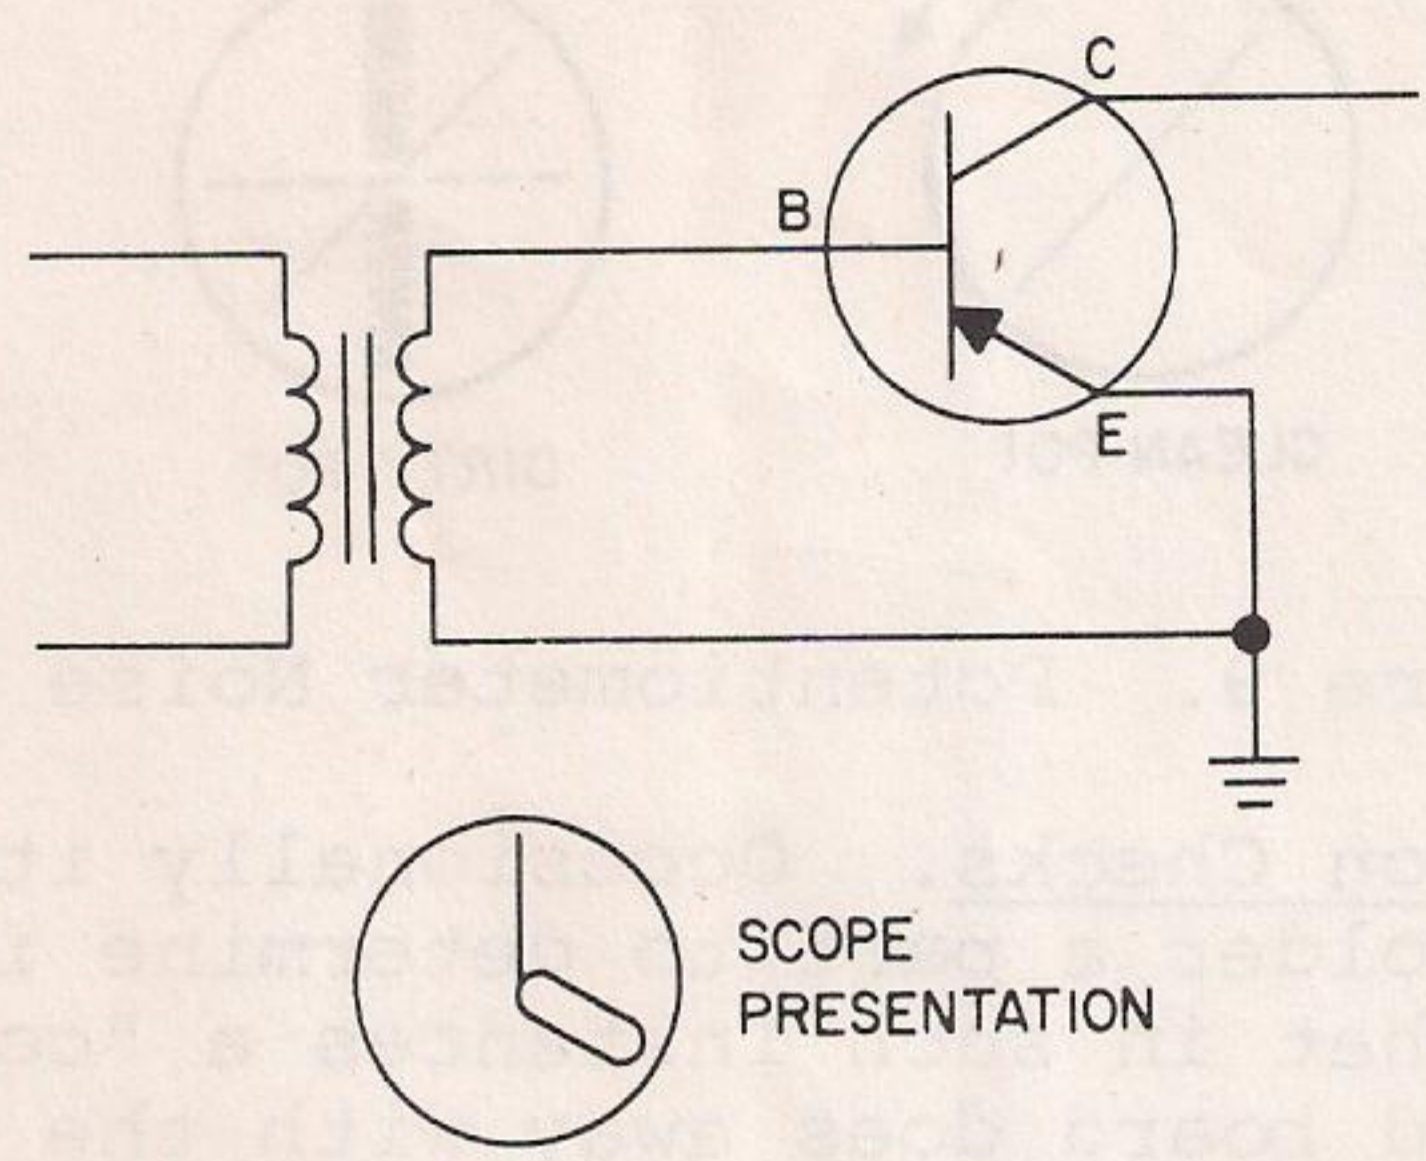

Figure 7. Transistor Check-Base to Emitter
(1) If the transistor circuit shown in figure 7 were under test (base-to-emitter), the trace shown would result. The scope pattern comprises both a junction step and Lissajous (Xl reactance), again informing us that the components are neither shorted nor open. Because of the coil resistance, the junction step appears to be greater than 90 degrees--in fact, approximately 120 degrees. This is common in any circuit that contains resistance in parallel with a junction component.